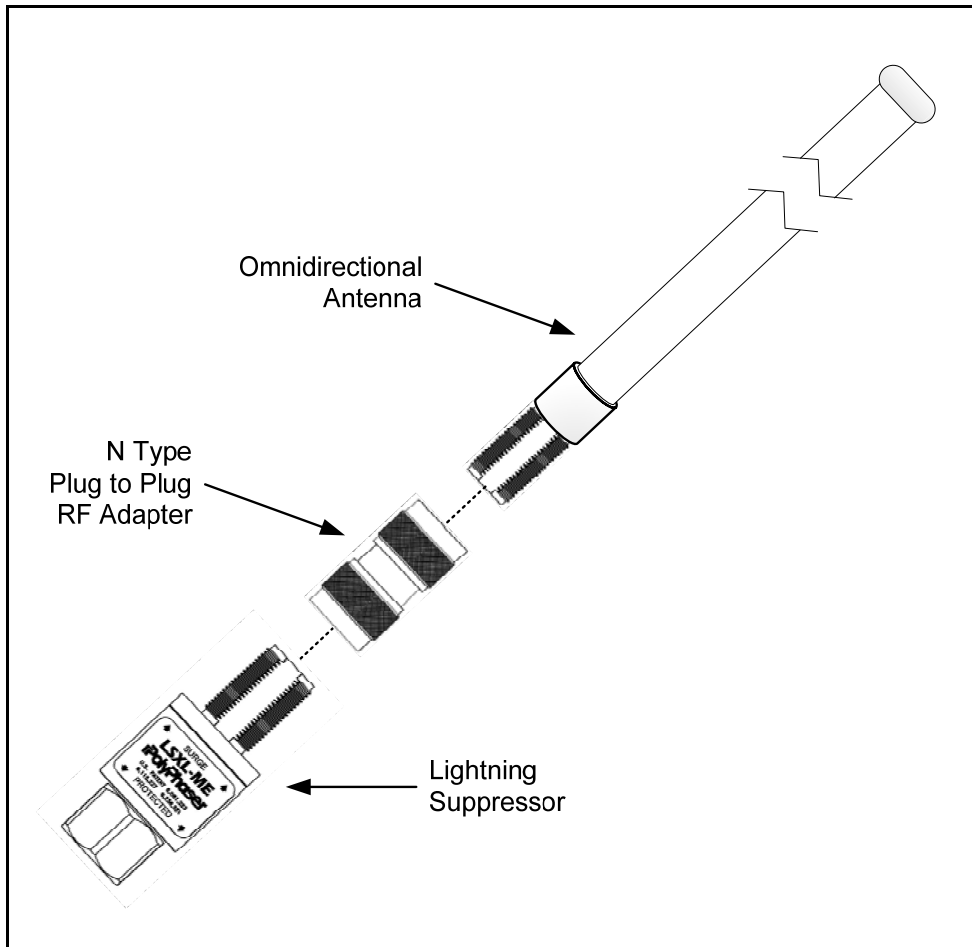

Figure 7-3: VIDA^{MAX} Base Station Antenna with External Lightning Protection
2. For the AC version of the base station, if external lightning protection is required, connect the optional lightning suppressor to the antenna assembly as shown in Figure 7-3.